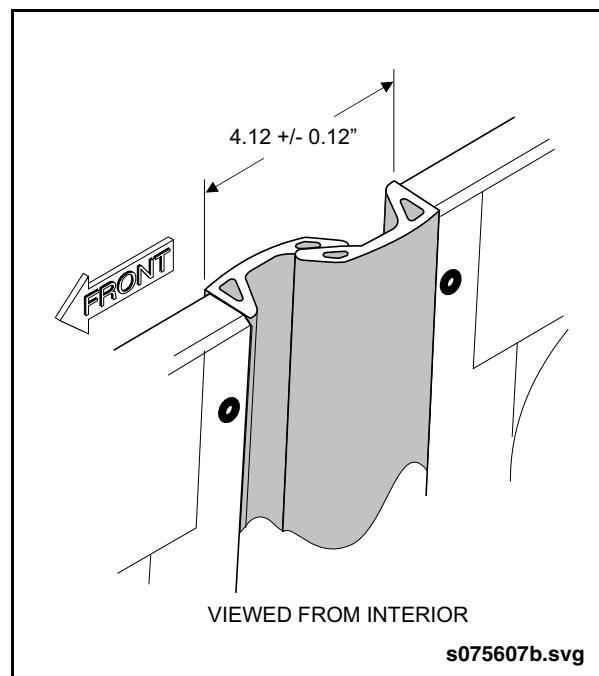

Fig. 16-4: Door Closure Adjustment
2. With the doors in this position the metal-to-metal door panel leading edge gap should be a minimum of 4.00". See "Fig. 16-4: Door Closure Adjustment" on page 9.